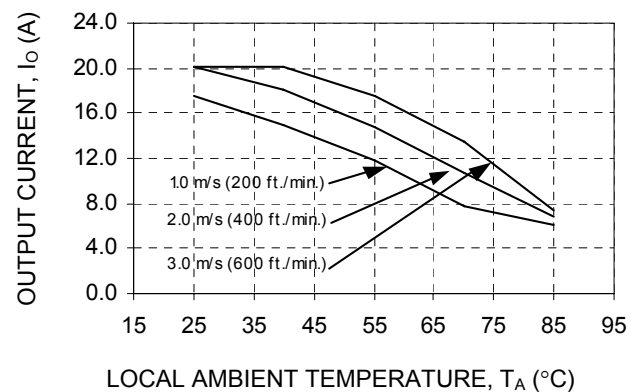

Figure 14. Output Current Derating for the QBK020A0B in the Transverse Orientation; Airflow Direction from $V_{in}(+)$ to $V_{in}(-)$; $V_{in} = 48$ V.
The use of Figures 14 - 15 are shown in the following example:
Determine required airflow (V) (Use Figure 14):